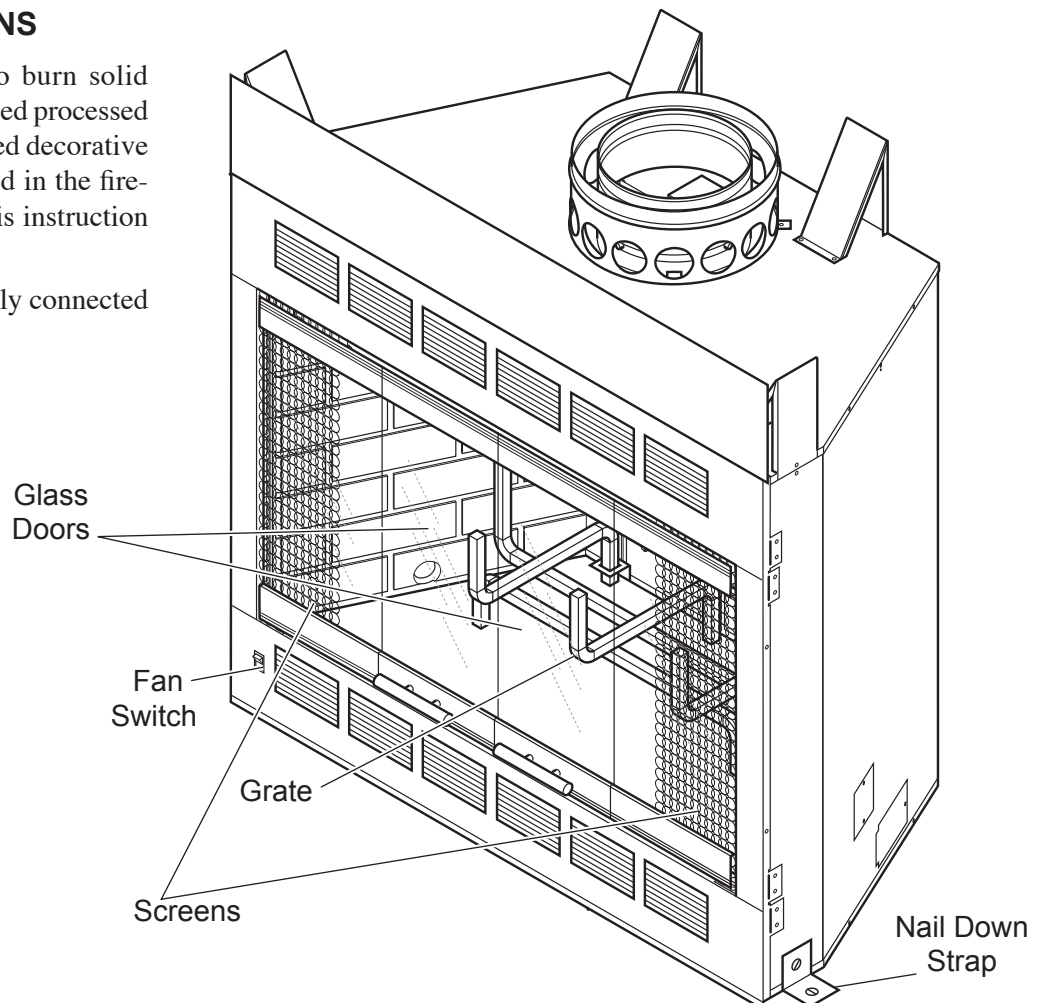

Figure 1 - BWBC400/500MHB
2. Block in the fireplace to prevent any shifting of firebox. Secure fireplace with naildown straps located on each side of the fireplace. *See Figure 1, Page 5.* Do not enclose the fireplace until the combustion air duct and chimney pipes are installed.